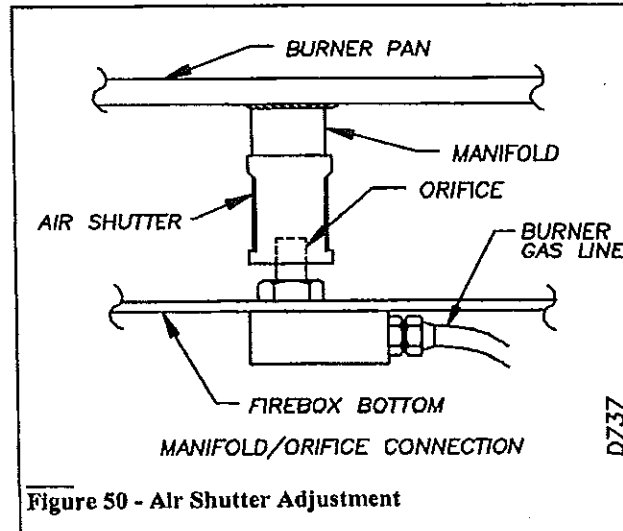
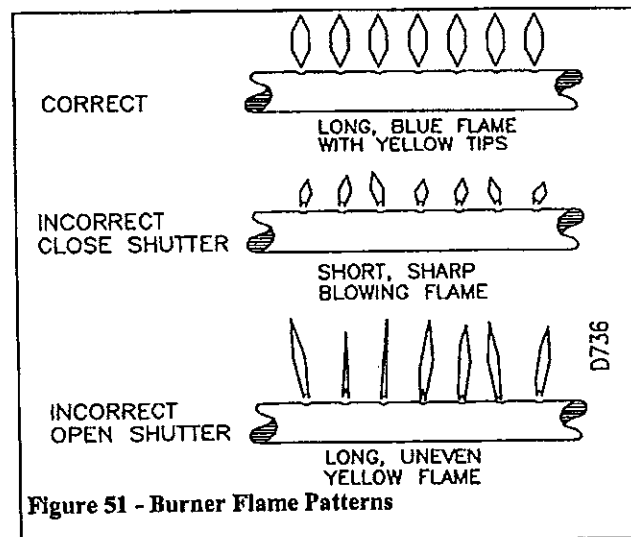

Figure 50 - Air Shutter Adjustment
Figure 51 - Burner Flame Patterns
The air shutter, located at the base of the main burner has been factory preset to the proper air-to-gas-ratio which results in an even, clean burning flame across the burner (see Figure 50). If readjustment is necessary, you can restore the proper flame setting by loosening the air shutter screw and rotating the air shutter until proper flame setting is achieved (the shutter's normal setting is fully opened). Don't forget to retighten screw (see Figure 51).
**⚠ CAUTION:** Make certain that the orifice is fully inside the venturi tube's air shutter, and that the air shutter is adjusted accordingly. See Burner Flame Adjustment, Figure 50 on page 19.